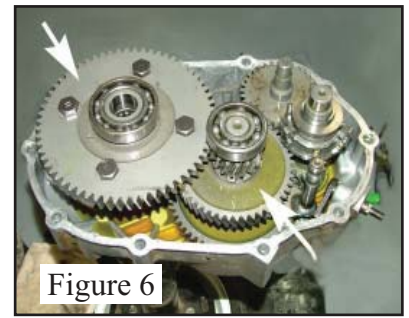

Figure 6
12. Carefully lift only the ring gear & differential assembly and the intermediate gear assembly until the ring gear & differential assembly can be lifted from the gear case. See figure 6.